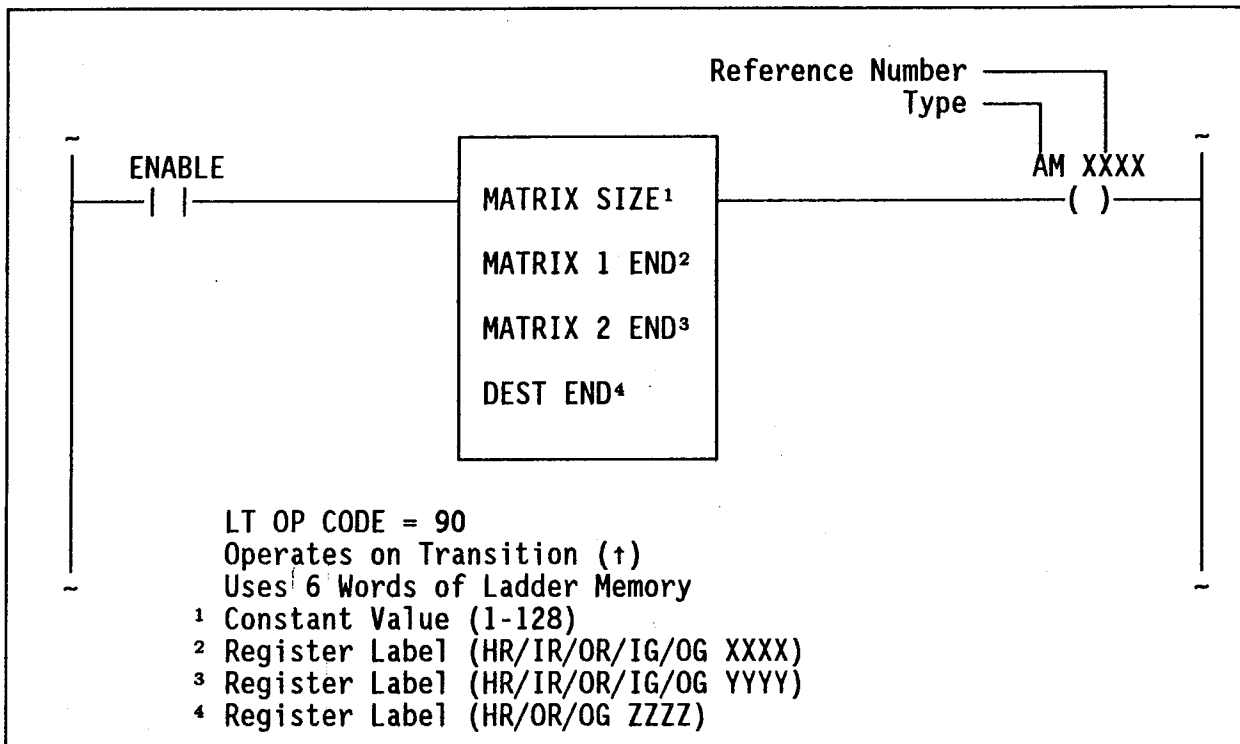

Figure 1. AND Matrix (AM)
AND Matrix (AM) function logically AND's a pair of matrices on a bit-per-bit basis; then, it places the result in a designation matrix. A matrix is defined as a table of registers handled on a bit-by-bit basis. AM function symbology is shown in Figure 1.